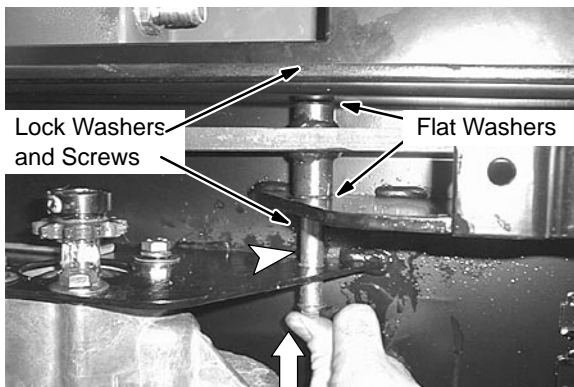

Fig. 14
2. Replace the lift arm pivot pin. Secure with (2) M6x1.0x16 screws, (2) 1/4x1 flat washers and (2) 1/4 lock washers. 10mm wrench and Loc-Tite required (Figure 14).